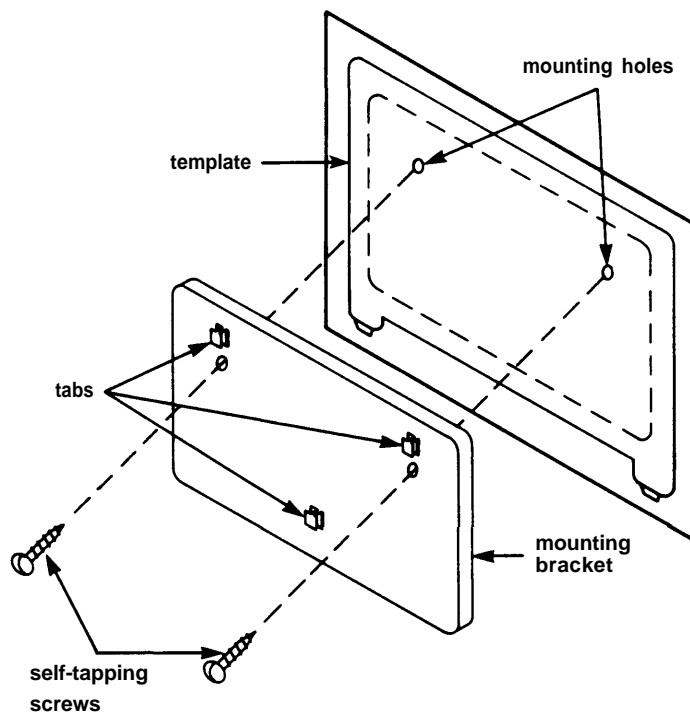

Figure 1
1. Make sure your mounting location is as large as the paper template included with the black mounting bracket (Figure 1). The control unit is the size of the template; the mounting bracket is smaller, as indicated by the dotted lines on the template.